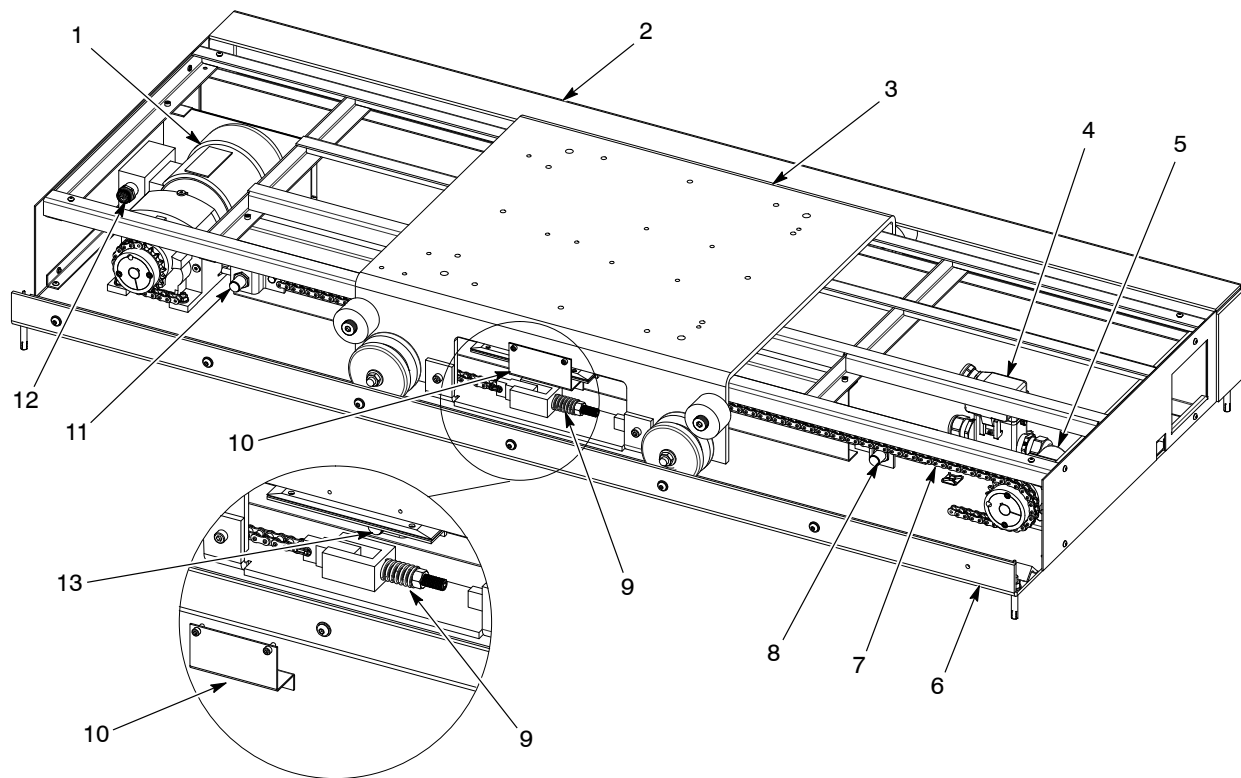

Figure 2 Positioner Components (shown without cable track)
See Figure 2. A vertical oscillator, reciprocator, or fixed gun stand is bolted directly to the carriage (3). The carriage is attached to the chain (7). The gearmotor (1) drives the chain, which moves the spray guns in or out of the booth. The chain is wrapped around the pulleys at each end of the positioner.